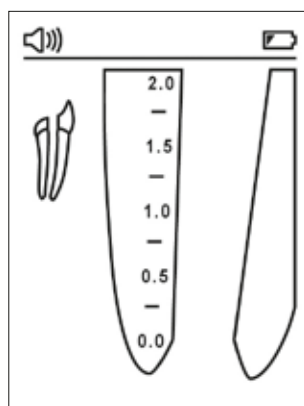

Figure 2
6.3.2. When the batteries are depleted, a flashing Low Battery indicator will appear in the upper right corner of the screen (Fig. 2). The CanalPro Apex Locator Compact will continue normal operation even with low batteries, but the batteries should be replaced before becoming flat.